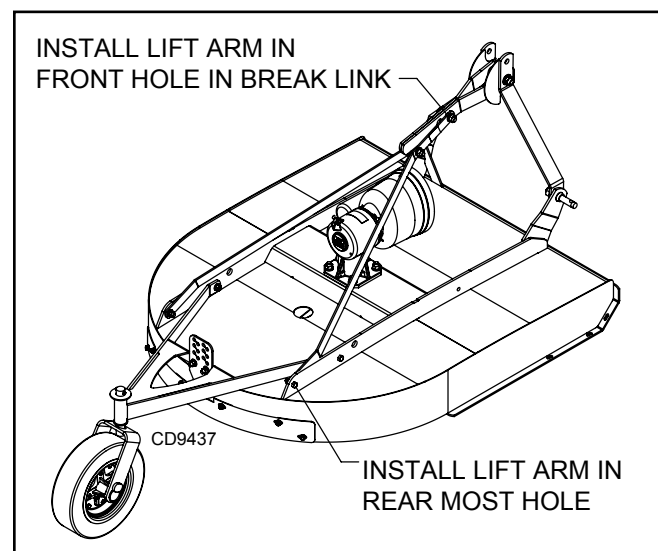

Figure 29A. BF4.X0 Top and Break Link Location
1. Attach Tailwheel Bracket (9) and Lift Arms (4) to cutter rail using 1/2 NC x 1-1/2 cap screws (17) and 1/2 NC flange lock nuts (19). Note location of Lift Arms (4) in cutter rail. See Figure 29A and 29B for 4 and 6 foot cutters.
2. Select desired height adjustment holes and secure Tailwheel Bracket (9) with 1/2 NC x 1-1/2 flange bolt (18) and 1/2 NC flange lock nuts (19).
3. Rotate A-Frame Bars (1) up and attach Top Link Guards (21), Break Links (3), Sleeve (2) to lower hole in top of A- Frame Bars (1) using 3/4 NC x 5 cap screw (13) and 3/4 NC flange lock nut (14).
4. Rotate Lift Arms (4) upward and attach to Break Links (3) using Sleeves (5), 5/8 NC x 2-1/2 cap screws (15), and 5/8 NC flange lock nuts (16). Note location of Lift Arms in Break Link holes. See Figure 29A and 29B for 4 and 6 foot cutters. See **Attaching Cutter to Tractor, pg. 12** for adjustments.
5. Attach Rubber Belting (8) and Belting Bar (10) to front of cutter using 3/8 NC x 1-1/4 carriage bolts (11) and 3/8 NC flange lock nuts (12). (Omit if installing optional chain shielding).
6. Secure Tailwheel (7) to Tailwheel Bracket (9) using 33 mm washer (6) and spirol pin (20).